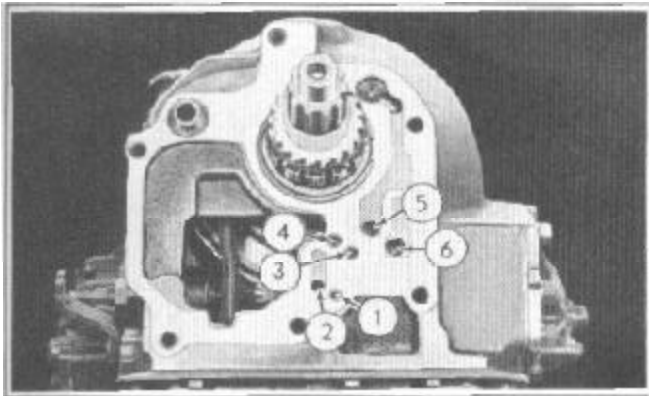

FIGURE 45
3. Remove the hydraulic detent piston. If the piston is stuck in the bore, position the governor fork so that it contacts the stop on the retaining plate. Cover the valve body to governor oil passage (3), Figure 45, and the multiple disc clutch passage (4), then using compressed air, blow into the direct drive passage (2) to force the detent piston out of the bore against the governor valve fork.